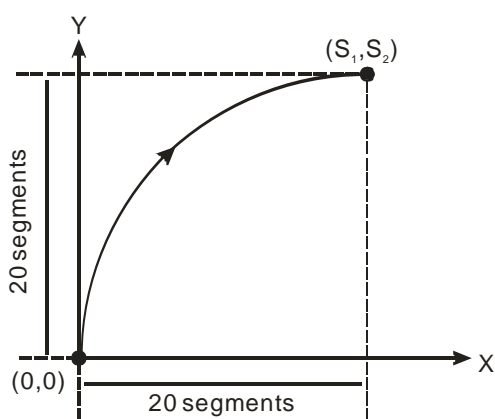

Figure 1
4. The low word of S (settings of direction and resolution): K0 refers to clockwise 20-segment output; K1 refers to counterclockwise 20-segment output; A 90° arc can be drawn (see figure 1 and 2).